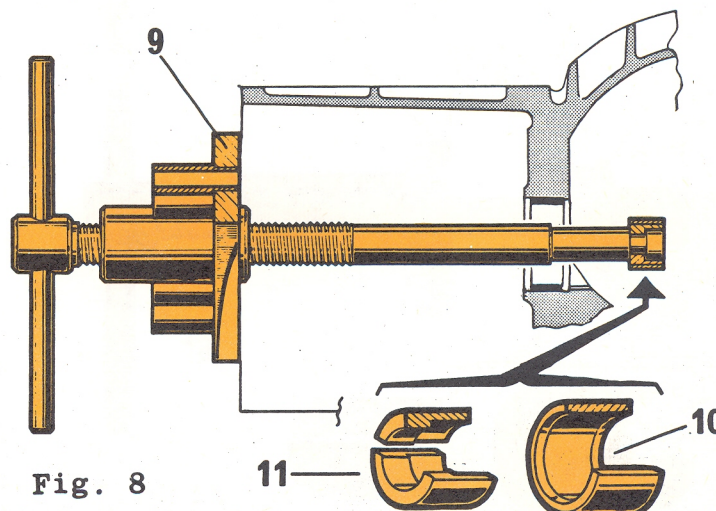
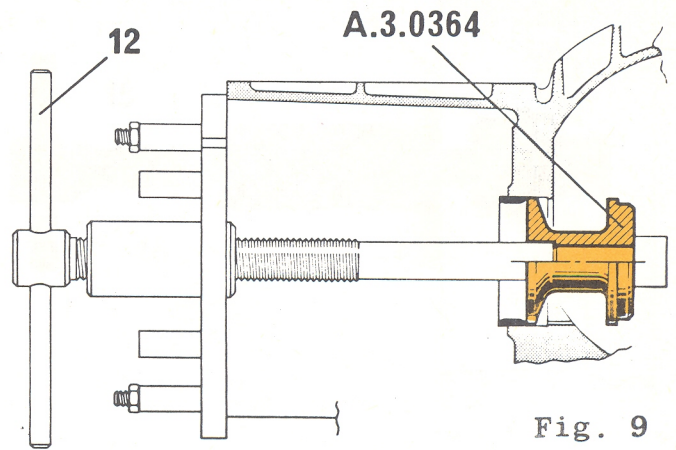

Fig. 8
Fig. 9
Place the tool A.3.0348 in line with the pinion rear bearing centreline and rest the cross-member "9" (see fig. 8) against the outer edge of casting.
**14** Remove the ring "10" and the half-bushing "11" from the tool A.3.0248 (see fig. 8) and install the tool A.3.0364 (see fig. 9).
- 15 Align the tool with the bearing seat centreline and withdraw the rear bearing race by rotating the handle "12" (see fig. 9).
Place the tool in the same position as shown at fig. 9 except that tool A.3.0364 should be in a slightly backward position.